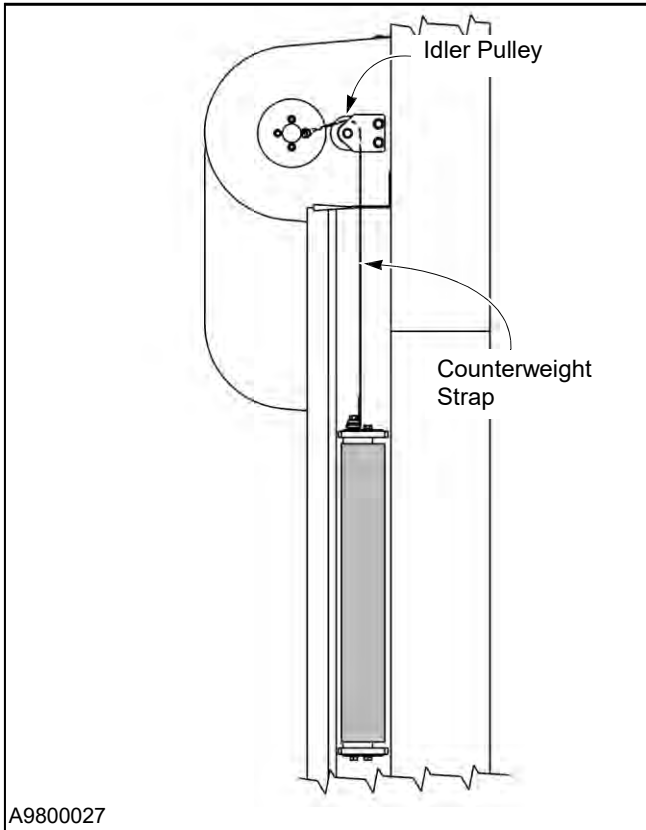

Figure 21
4. Route each counterweight strap over its associated pulley as shown in Figure 21.